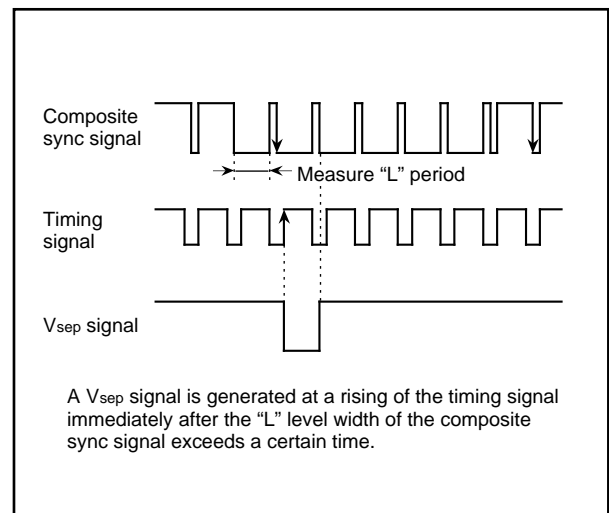

Fig. 28. V_{sep} Generating Timing (method 2)
- Method 2 The "L" level width of the composite sync signal is measured. If this width exceeds a certain time, it is detected whether a falling of the composite sync signal exits or not in the "L" level period of the timing signal immediately after this "L" level. If a falling exists, a V_{sep} signal is generated in synchronization with the rising of the timing signal (refer to Figure 28).
Figure 28 shows a V_{sep} generating timing. The timing signal shown in the figure is generated from the reference clock which the timing generating circuit outputs.